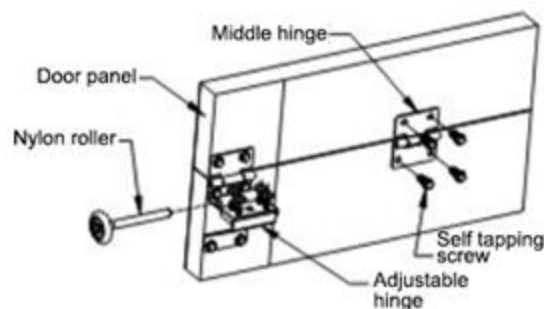
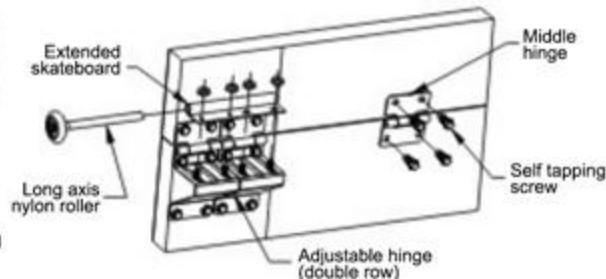

Figure 7-3
Figure 7-4
The end of the door panel width ≤ 4300 adopts single-row hinges (Fig. 7-3), and the end of door panel width > 4300 adopts double-row hinges, extended skateboards, and long-axis nylon rollers (Fig. 7-4).
7.3 Middle hinge installation (Figure 7-3, 7-4)